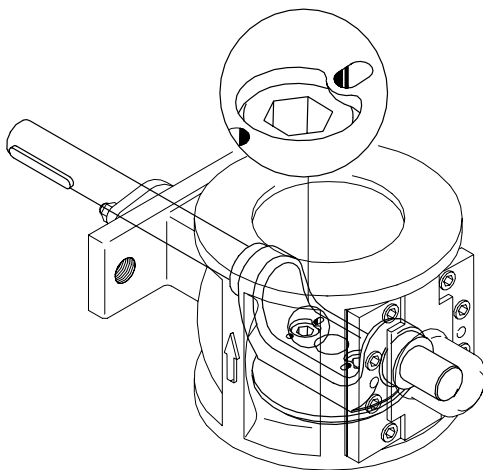

Fig.6-13.1 Assembly DN 40-250
2. **DN 40-250:** Refit the screws. Lock the bolts with a centre punch on the back of the shaft device. It is recommended to use the existing centre marks on the back for this (→ Fig. 6-13.1).
2. **DN 40-250:** Refit the screws. Lock the bolts with a centre punch on the back of the shaft device. It is recommended to use the existing centre marks on the back for this (→ Fig.6-13.1).